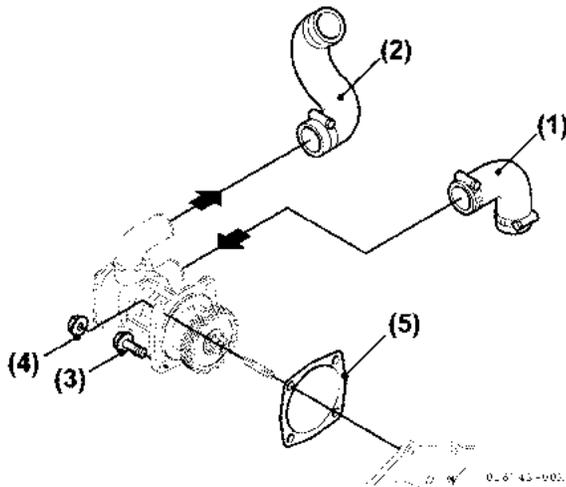

Figure 7-36
17. Install the seawater pump assembly with new gasket (Figure 7-36, (5)) to gear case.
2. Disconnect seawater supply hose from seawater pump (Figure 7-36, (1)).
3. Disconnect seawater pump-to-heat exchanger pipe (Figure 7-36, (2)).
4. Remove three bolts (Figure 7-36, (3)) and one nut (Figure 7-36, (4)) then remove seawater pump.
Note: When installing, use the new gasket (Figure 7-36, (5)).